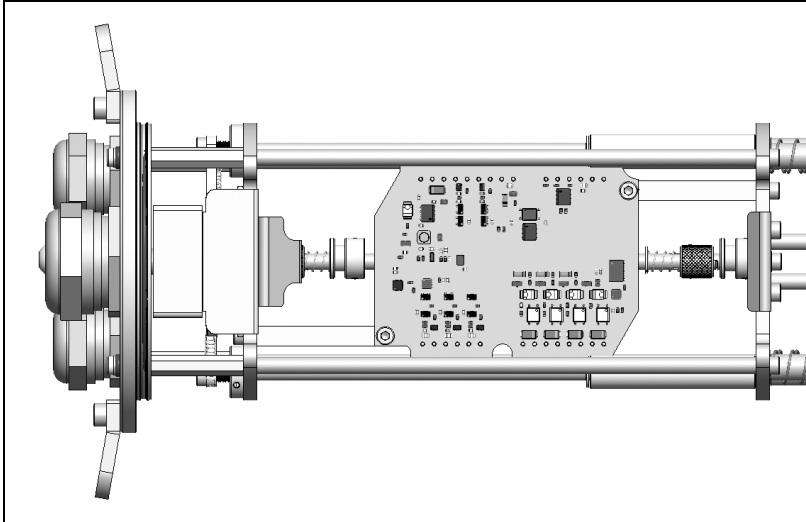

Figure 27: Mounting of the Industrial PIF (top view)
5. Fix the Industrial PIF with the screws (M3x5) as shown in **Figure 27**.